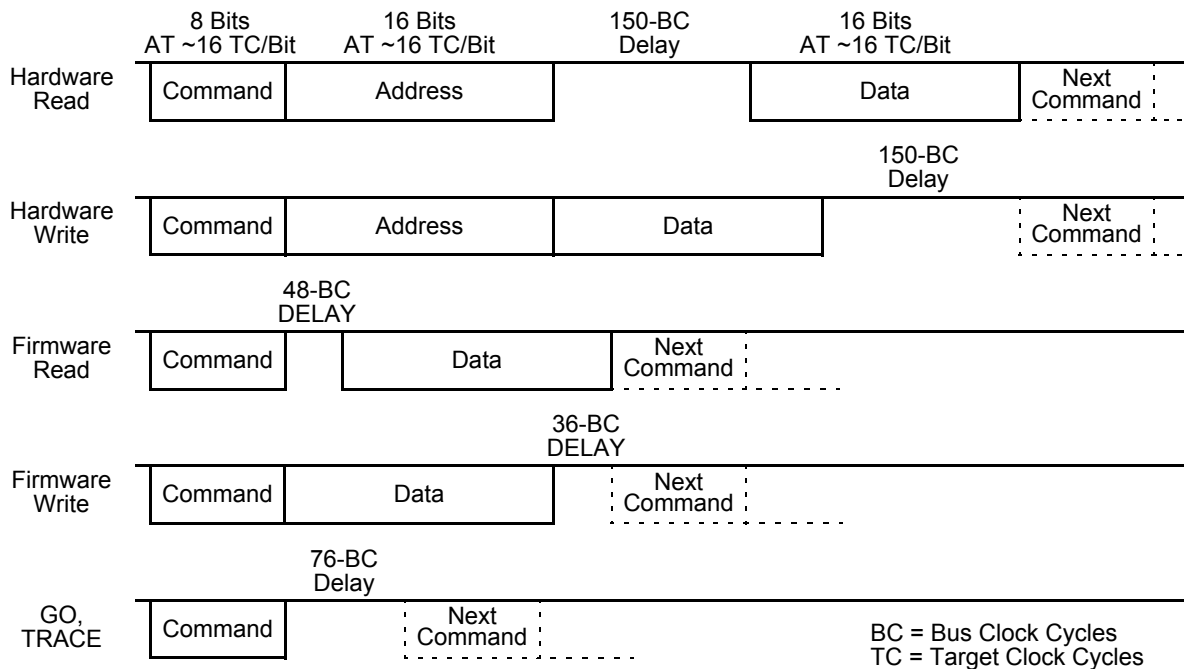

Figure 54. BDM Command Structure
Figure 54 represents the BDM command structure. The command blocks illustrate a series of eight bit times starting with a falling edge. The bar across the top of the blocks indicates that the BKGD line idles in the high state. The time for an 8-bit command is  $8 \times 16$  target clock cycles. (183)